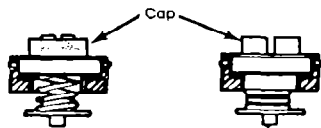

Figure 6
2. Remove the cap with screwdriver slot, turn it over, then replace the cap. This cap will then have the marking "LPG10". Do not disturb or remove the spring beneath this cap. See Figure 6.